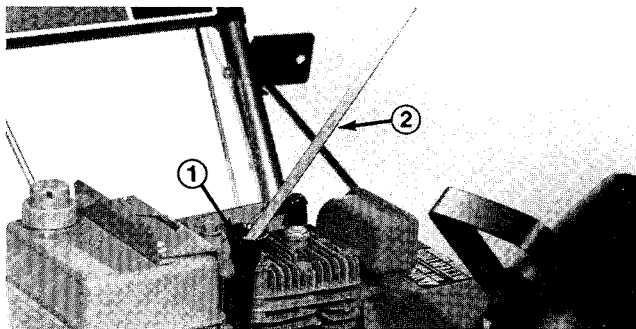

Figure 14
3. Remove dipstick from crankcase (Fig. 14).
4. Slowly, pour 21 ounces (0.621 l) of SAE 5W30 or SAE 10 oil into the filler hole (Fig. 14). The engine uses only high-quality detergent oil having the American Petroleum Institute — API — “service classification” SC, SD or SE.